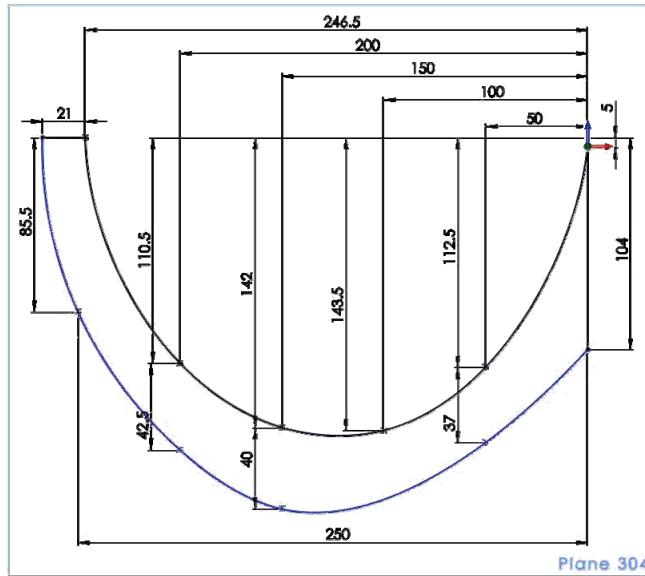

Fig. 3.10
**12 Schițare contur 5:** comanda Sketch- Fig. 3.10 – Selectie plan 304 / Schițare contur / .
**12 Sketching of the 5 contour:** the Sketch command - Fig. 3.10 – Select 304 Plane / Sketch the contour / .